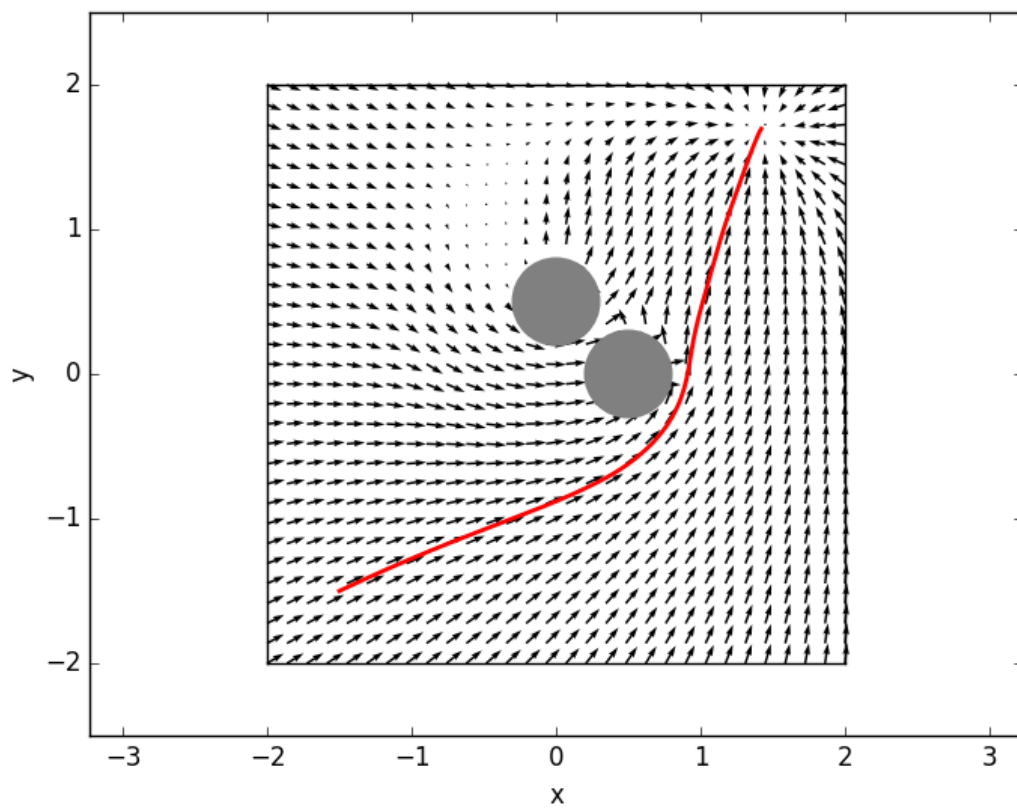

Figure 6: Potential field with two obstacles at $(0,0.5)$ and $(0.5,0)$
- (e) Figure 6 shows how the problem in part (d) can be fixed. The vectors coming from the obstacle are now rotated by 1 radian anti-clockwise (which can be tuned). This means that the robot will now take the path on the right of the obstacle, as it is pushed in that direction by these vectors. To calculate the vectors, I use the standard 2-D rotation matrix to ensure that the magnitude of the vector stays the same (it is rotated from its original direction around its base).